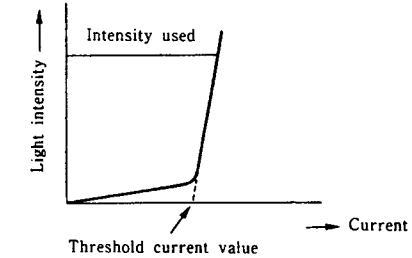

Fig. 12
**5. Precautions at time of servicing (Fig. 12)**
- (1) Semiconductor laser
- As illustrated in Fig. 12, the current and light intensity characteristics increase abruptly once the threshold current value is exceeded.